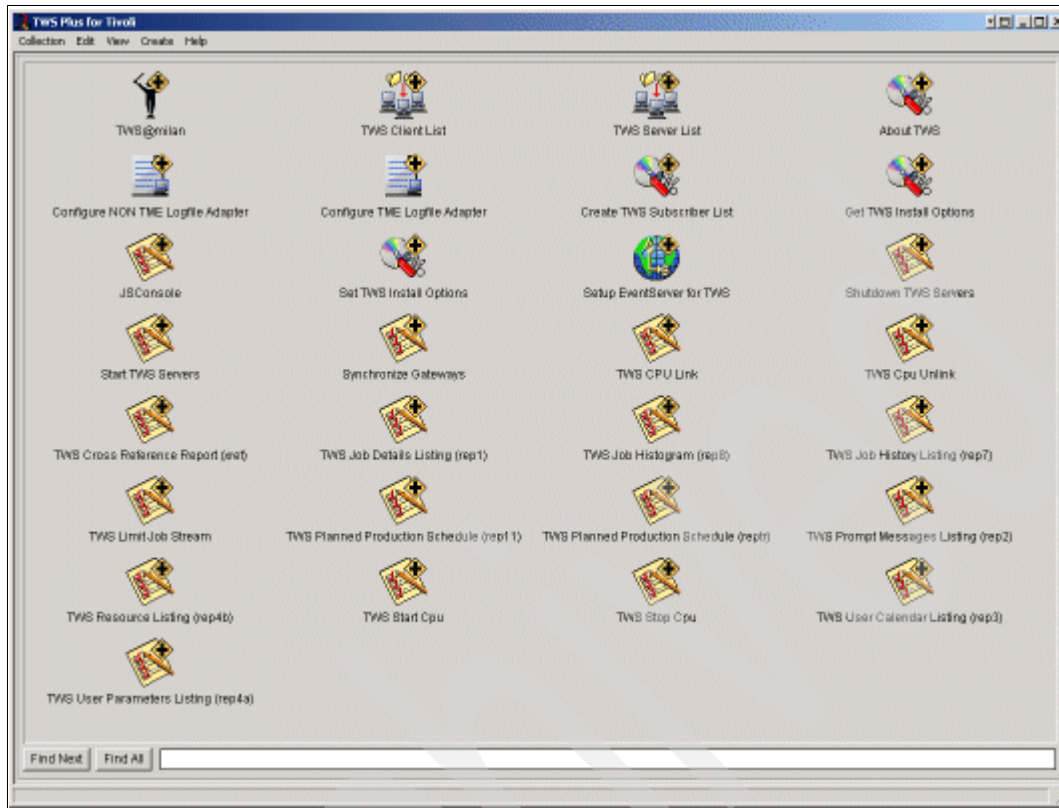

Figure 8-5 TWS Plus for Tivoli window
3. Double-click the TWS Plus for Tivoli icon. The TWS Plus for Tivoli window displays as shown in Figure 8-5 on page 345.